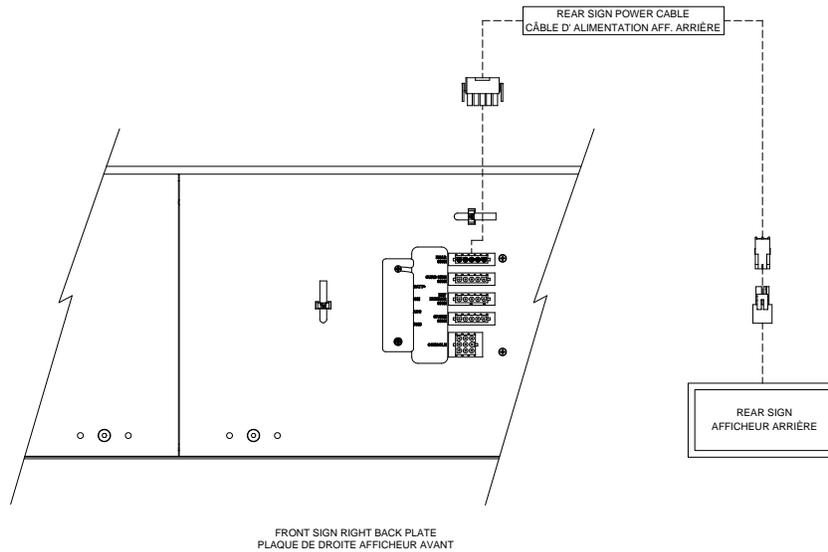

Figure 9: Rear Sign Cable Connection
- Connect the power cable (5-pin connector) to the **REAR SIGN** connector (5-pin connector) located on the Back Plate of the Front Destination Sign (See Figure 9).